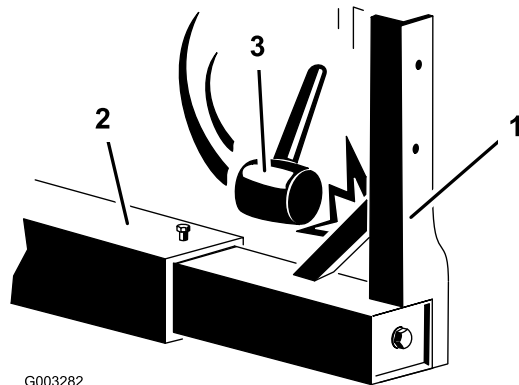

Figure 2
6. Using a plastic or rubber mallet, tap the upright to back the frame out (Figure 2).